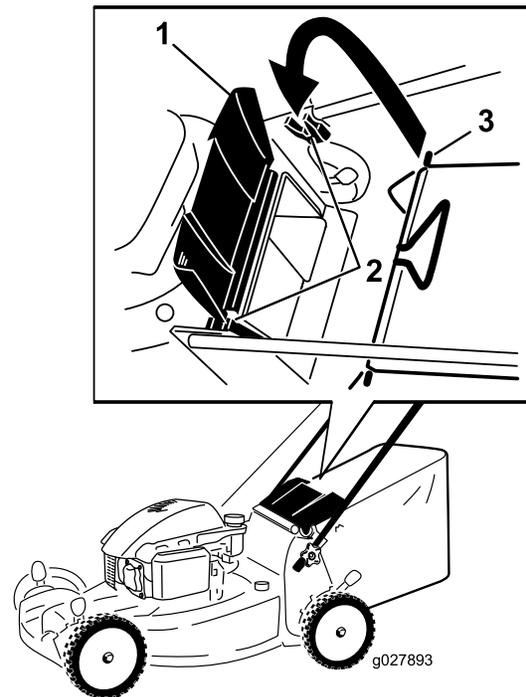

Figure 22
1. Raise and hold up the rear deflector (Figure 22).
2. Install the grass bag, ensuring that the pins on the bag rest in the notches in the handle brackets (Figure 22).